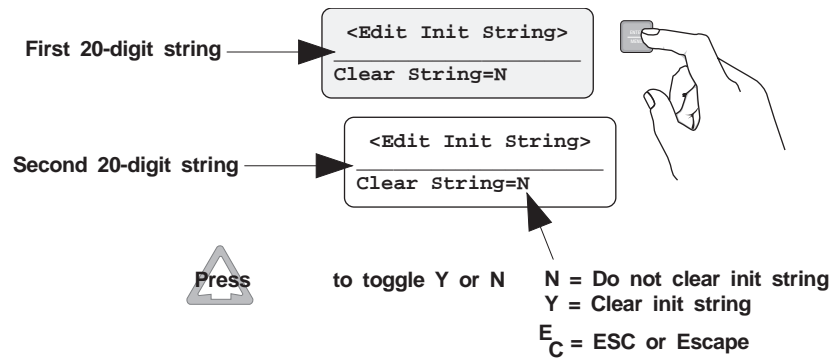

Figure 5-6 Initialization String Display
- At the Clear String=N field, press ▲ or ▼ until the desired option flashes (Figure 5-6)